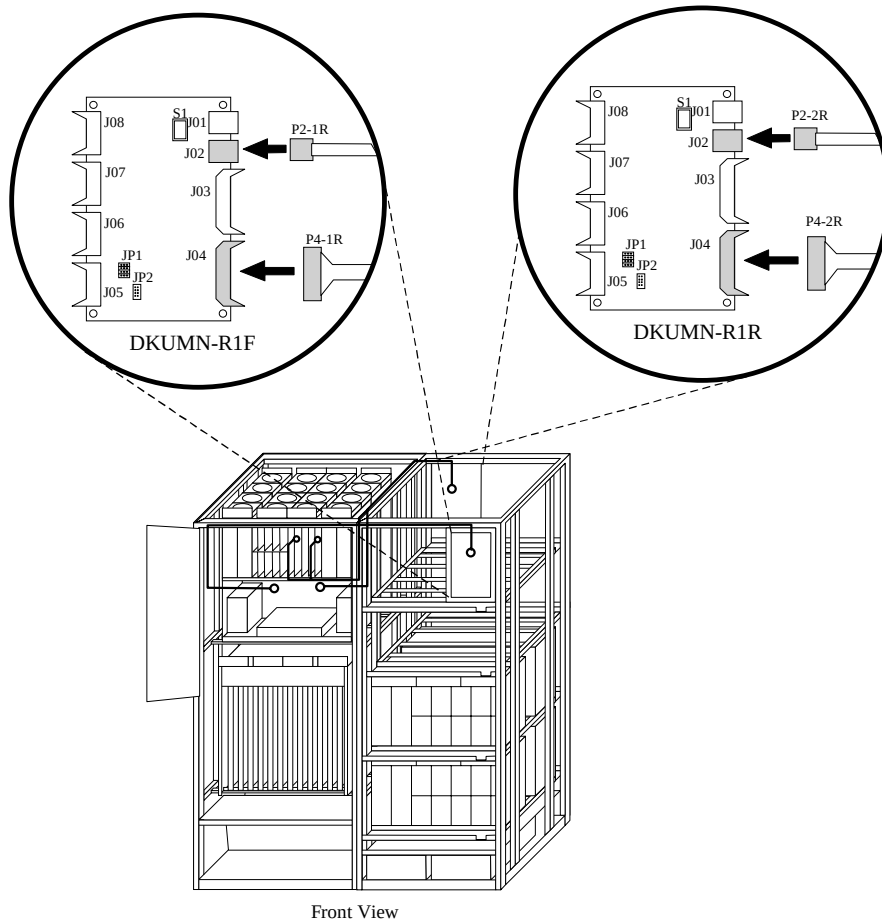

Fig. 3.3.5.1-1 Connection of DKUMN Cables
2. Before binding the DKUMN cables. Secure the DKUMN PCB. Refer to Fig. 3.3.5.1-3